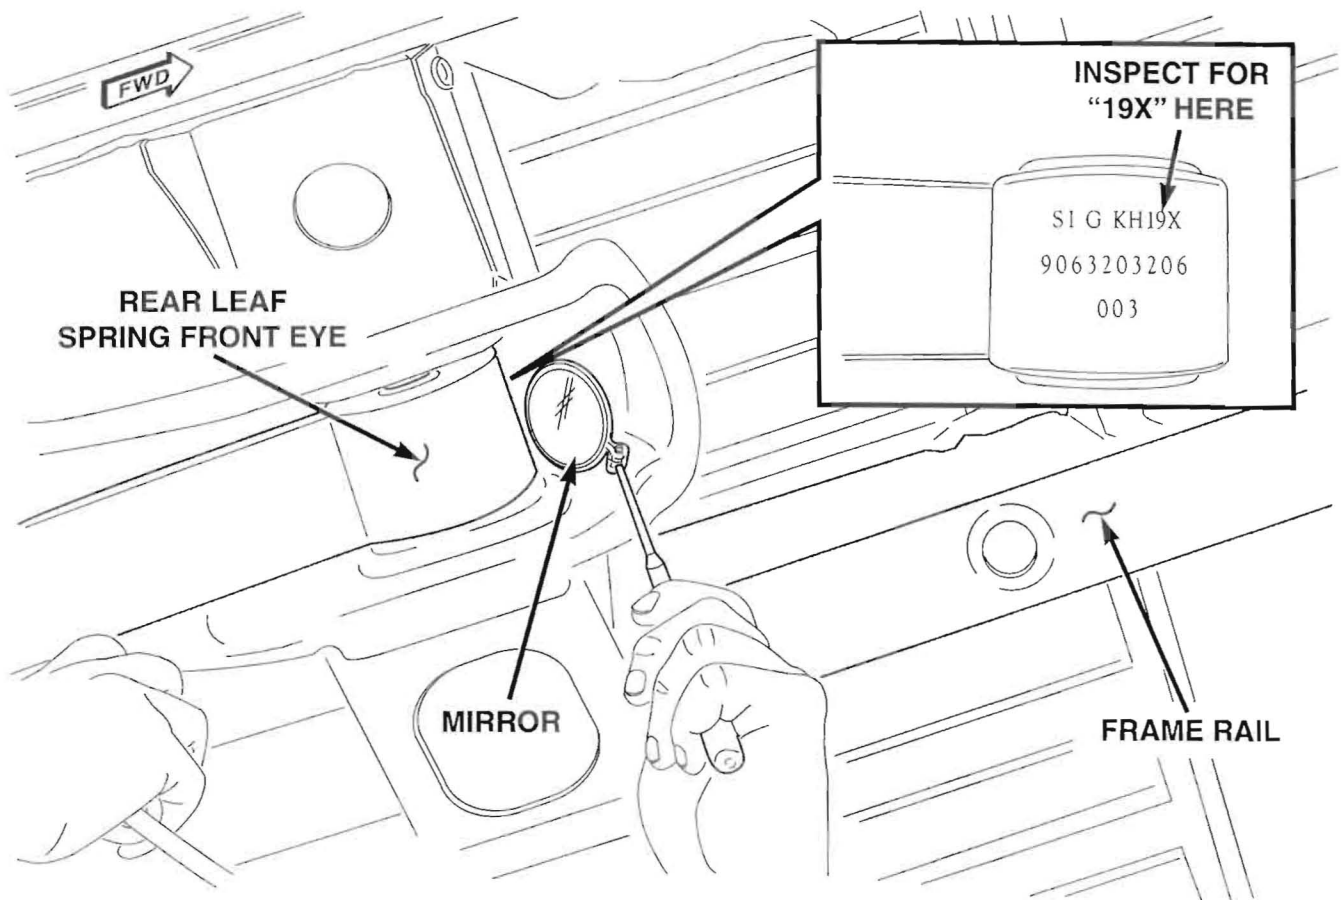

Figure 1
2. Using a small mirror, inspect the right and left rear leaf spring for an “19X” stamped into the front spring eye (Figure 1):